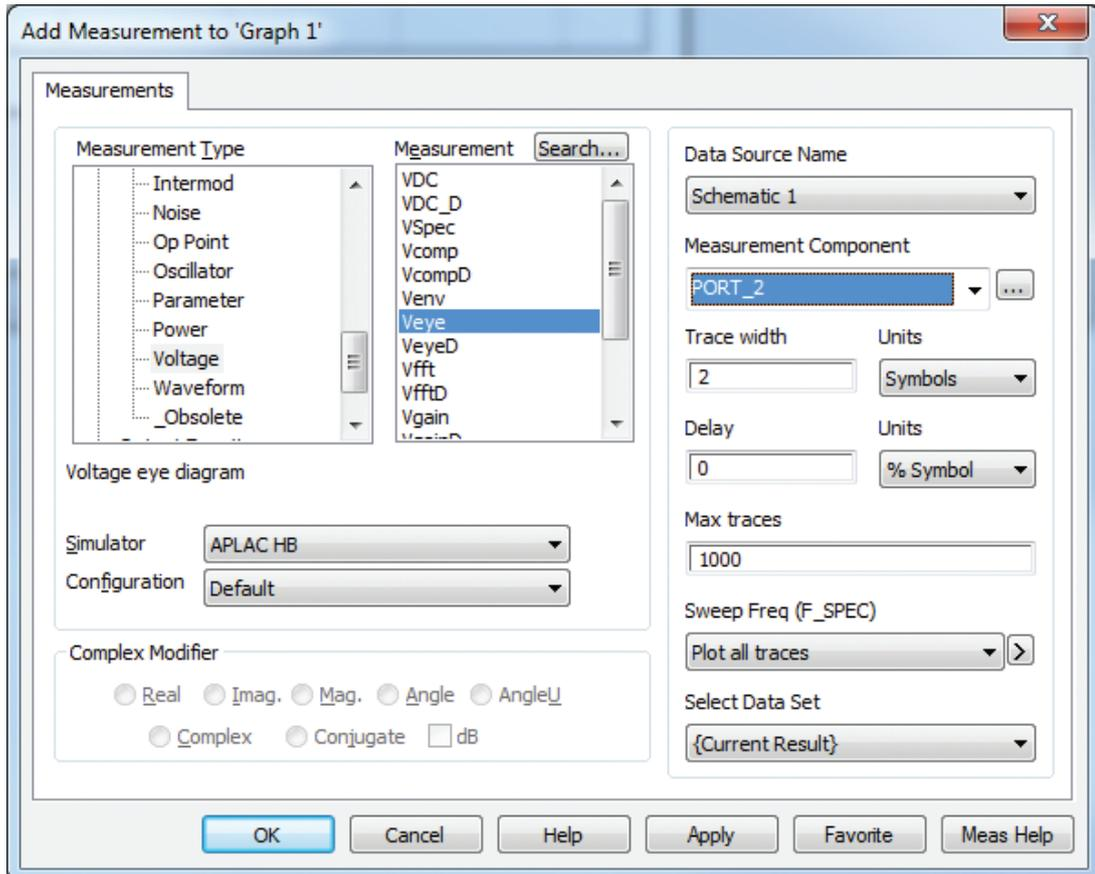

Figure 5: Add Measurement Dialog
12. Configure the new measurement as shown in Figure 5.